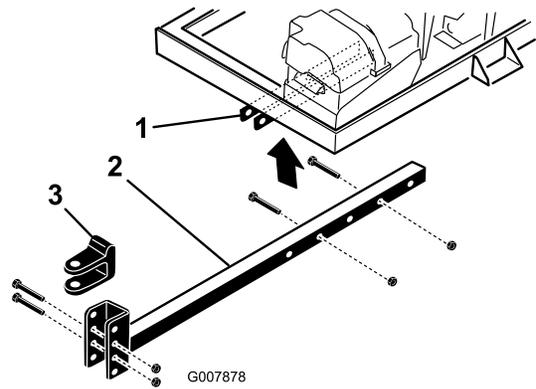

Figure 4
- Remove the bolts and locknuts securing the hitch clevis (Figure 4) to the hitch tube.
2. Insert the hitch tube into the frame brackets (Figure 4). Secure the tube to the frame with 2 bolts (3/8 x 3 inches) and flange nuts (3/8 inch) and torque to 40 N·m (30 ft-lb).
- Remove the bolts and nuts securing the hitch tube to the frame brackets (Figure 4).